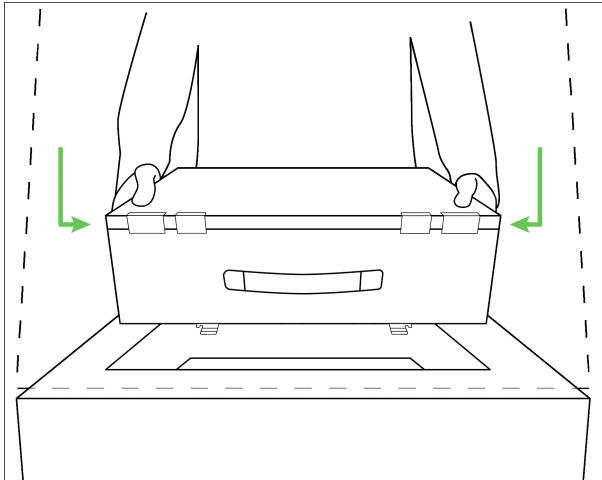

Figure 3-1. Placing the ClearCast Go voting station
1. Place the voting station on the ballot box by using the two handles on either side of the enclosure (Figure 3-1).